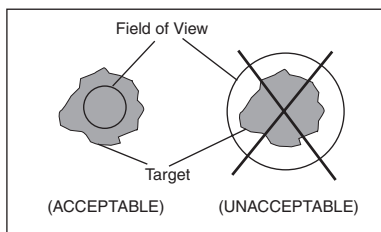
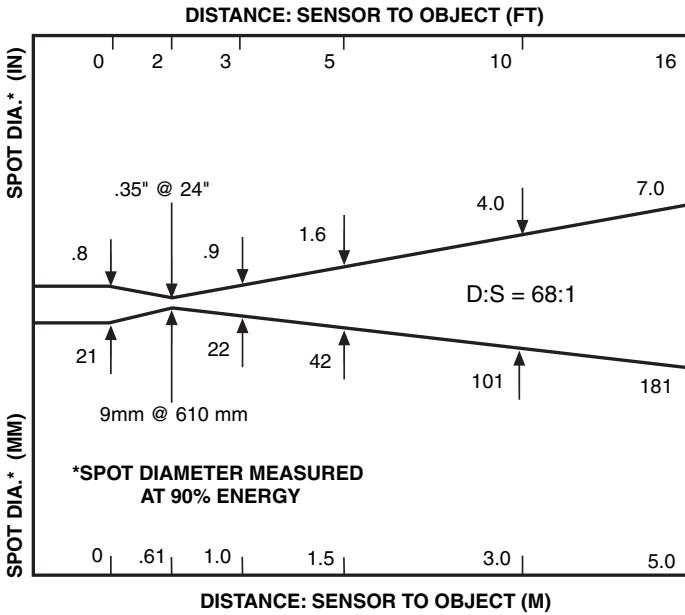

Figure 3-2. Field of View Positions
Figure 3-3. OS550 Series (-1 FOV)
- The optical field of view of the thermometers sensor head should fall within the area of the target being measured. See Figure 3-2. Figures 3-3 through 3-8 show the fields of view vs. distance for the various thermometers.